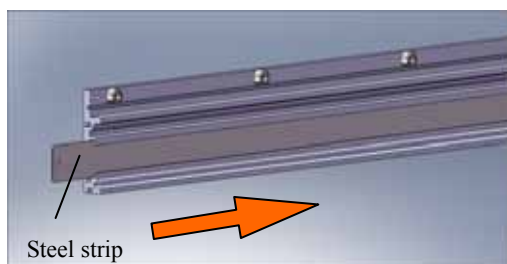

Fig. 5.4 Installation of steel strip
- (3) **Installation of steel strip:** Push the entire steel strip into the open slot as shown in Fig. 5.4. Push two  $\Phi 2.5$  sealing strip orderly into the open slot, and press down the steel strip to make it flat as shown in Fig. 5.5. After pressing down the steel strip securely, clean the strip with acetone, alcohol or gasoline, so as to attach the tape securely.